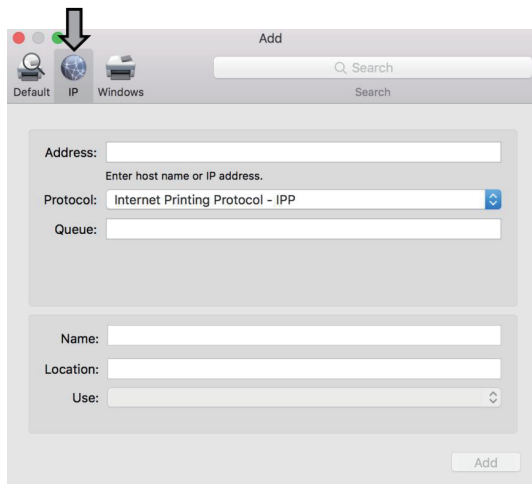

Fig.8
Hold down the FEED button while turning on the printer. Release the button after hearing a single beep. The printer will automatically print a self-test page (see Figure 8).
③ Open “System Settings” and navigate to the “Add Printer” interface. Then click the IP tab to proceed (see Figure 8).